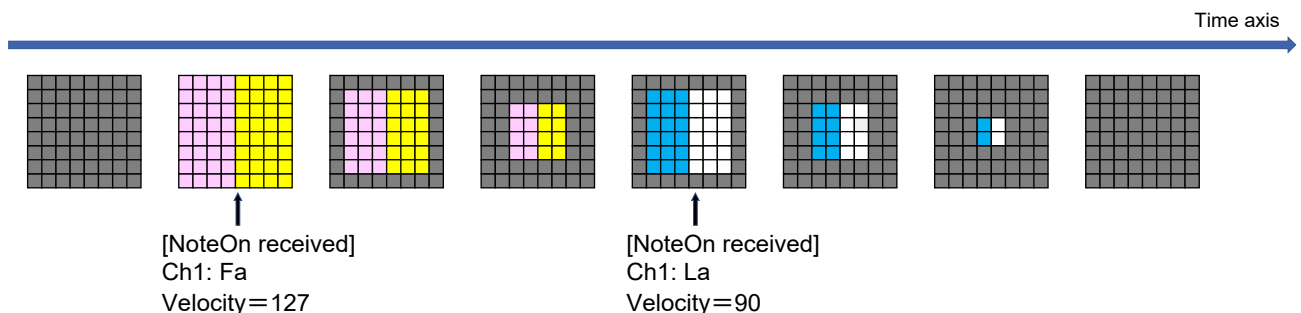

Figure 1-7 Display Example (Specific MIDI Channel Display Mode)
- As shown in Figure 1-7, colors assigned to each note are displayed each time a NoteOn (keystroke) message of the display target channel is received. The display range is gradually reduced at regular intervals.
- When the display starts, the size is determined by referring to the velocity value contained in the NoteOn (keystroke) message. Figure 1-7, shows that the velocity value of the “Fa#” NoteOn message is the maximum value and therefore, the display starts from the maximum size. The “La#” NoteOn message contains a smaller velocity value, and therefore, the display starts from the value smaller by one frame size.